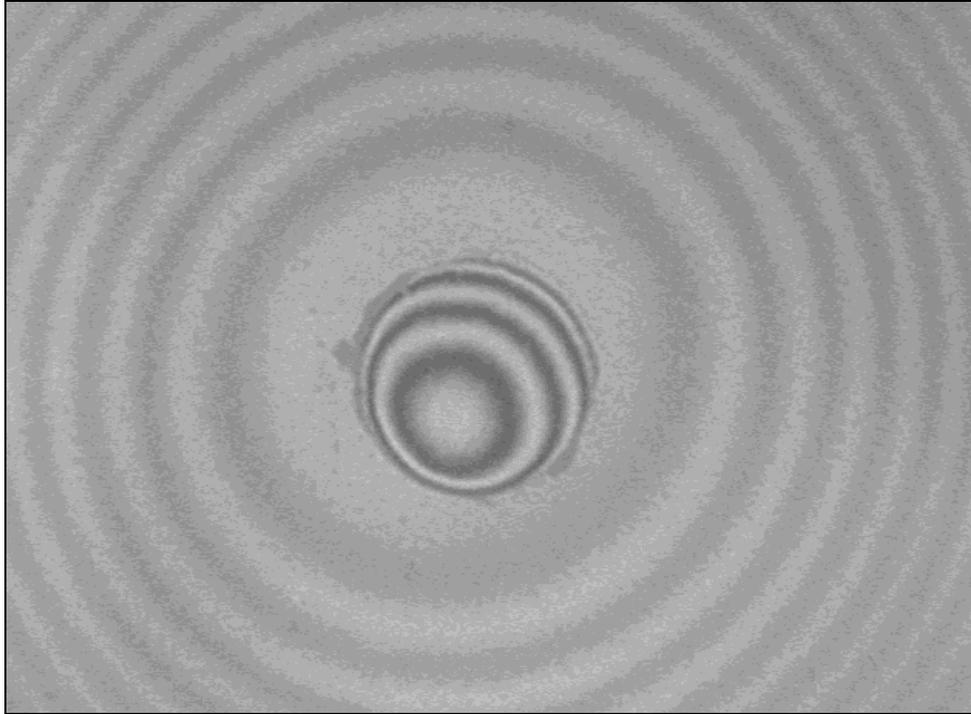

Figure 96.
- If you are expecting a large fiber protrusion, then adjust the focus to obtain the highest contrast fringe on the fiber. This is shown in figure 96.
- If you are not sure if the connector has an undercut or protrusion then focus as in figure 96 above.